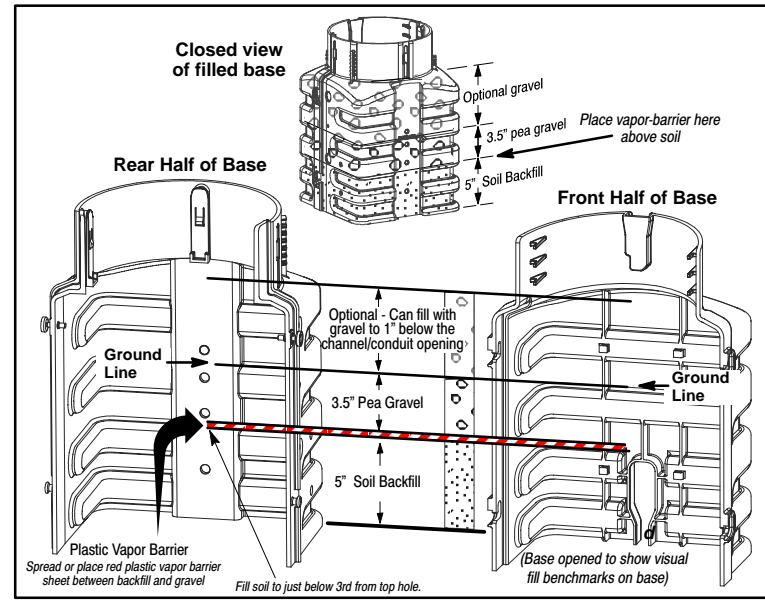

Figure 2. Backfill Levels Inside the Base
29. **Backfill soil inside the base and tamp.** First plug, cap, or cover all channel, conduit or innerduct openings, then per company practice, backfill soil *inside* the base, about 5 inches deep (see Figure 2), and firmly tamp the soil (a short shovel handle works well for tamping). This adds stability and inhibits any company-approved gravel (Step 31) from falling or slipping under the base sides when it is added.